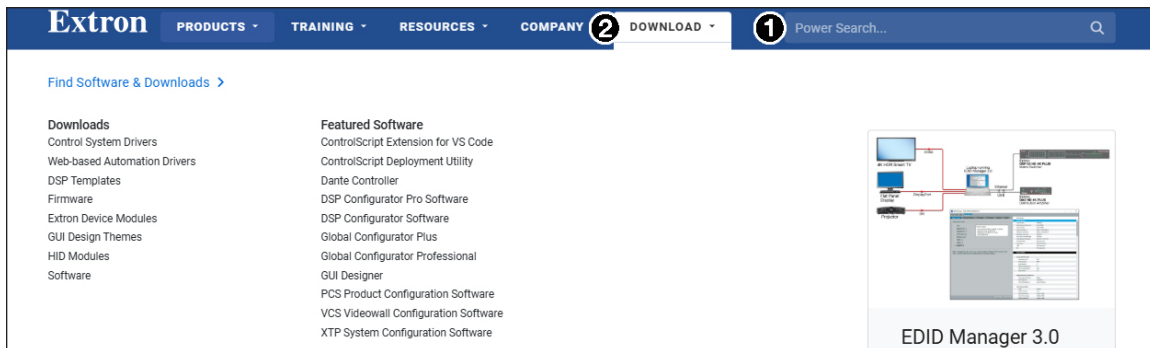

Figure 20. Search Bar and Links on Find Software and Download Screen
2. Enter the name of the device or software in the **Power Search** field (see figure 20, ①). Or, mouse over the **Download** tab at the top of the page (②) and click the appropriate link on the drop-down list.